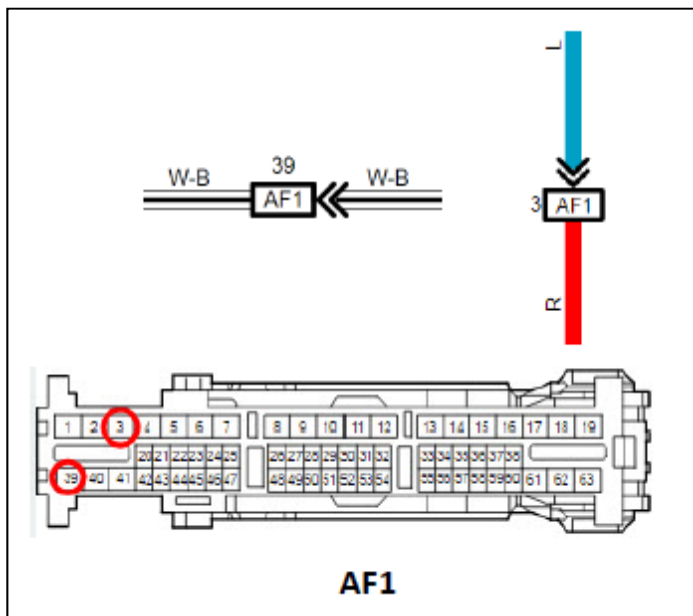

Figure 31
33. Using a Blue T-Tap connect the Yellow wire from the foot-well harness to the Red wire in the AF1 connector pin 3 found in the driver sidekick panel. See Figure 31.